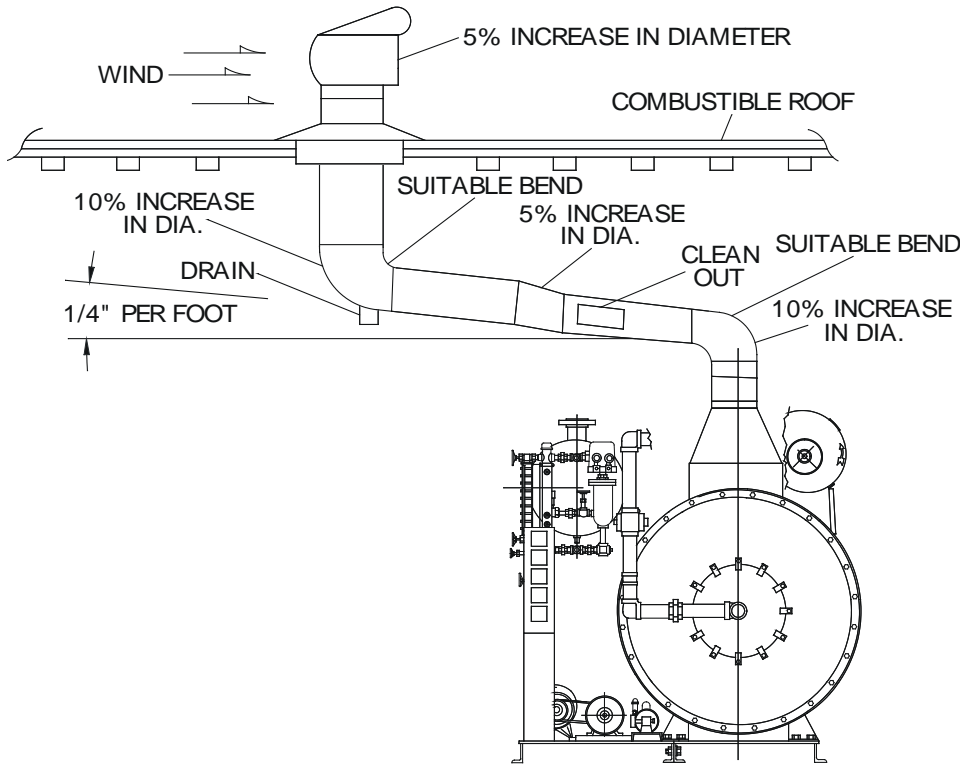

Figure 7. Stack Installation with Horizontal Run
- 7.8** Horizontal runs in the stack, when necessary should be pitched up 1/4 inch per foot, and the diameter of the pipe should be increased 5% over the preceding pipe diameter at each 10 foot interval in the horizontal run. A 10% increase in pipe diameter over the preceding diameter must be made at each elbow. (See Figure 7.) Horizontal runs should be provided with a clean out door. Round stacks and breeching are preferred.